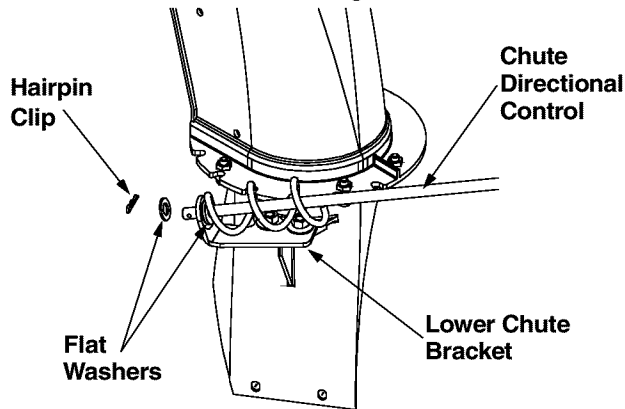

Figure 7
- Place another flat washer from the same group on the end of the chute directional control, and insert hairpin clip into hole at the end of the chute directional control. See Figure 7.